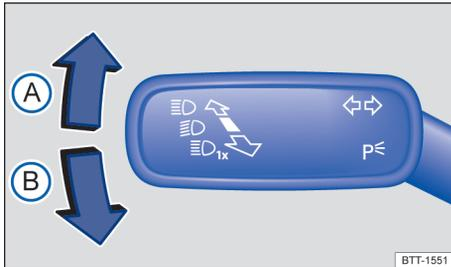

Fig. 76 To the left of the steering wheel: Turn signal and high beam lever.
- Move the turn signal and high beam lever → **fig. 76** to position: